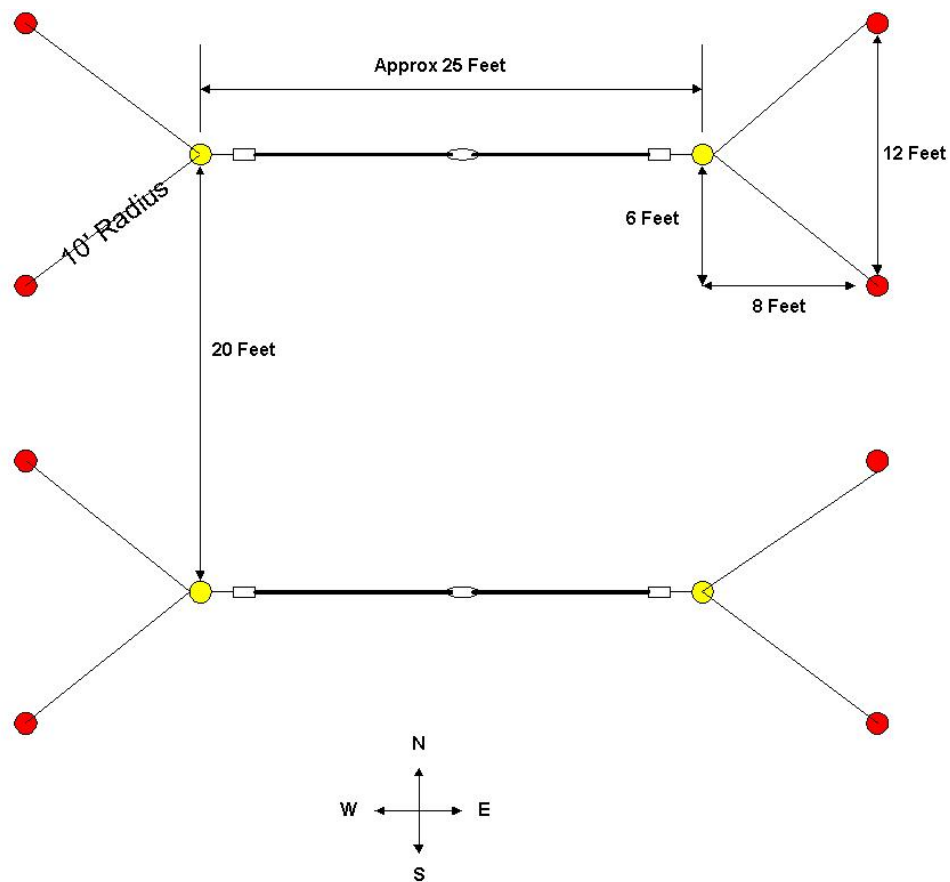

Figure 7.1. Antenna field layout for masts and guy stakes.
Before the antenna masts can be assembled and raised, you must layout the antenna field. Study Figure 7.1 and note that the antenna wires run in an East-West direction. Also note the mast locations and the guy spike locations. Proceed as follows.
Step 1. (Refer to Figures 7.1 – 7.3)